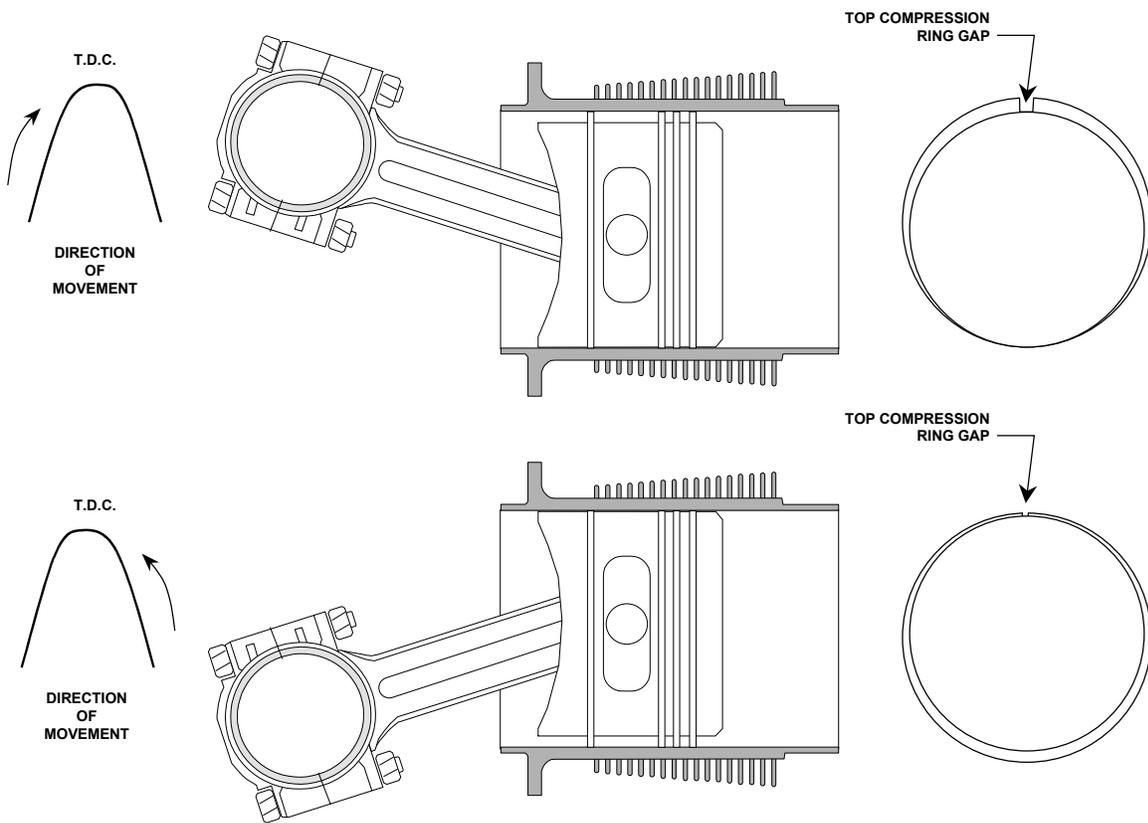

FIGURE 20-11. RING POSITIONING
10. If the leakage is below the previously determined low cylinder gauge reading, loss past the dynamic seal may be due to piston ring end gap alignment or by the piston and piston rings angular direction in the cylinder bore see Figure 20-11, "Ring Positioning." First insure that the piston and piston rings are centered. This can be accomplished by reducing regulator pressure to 20 pounds per square inch and working piston through top dead center several times bringing the piston to top dead center in the normal direction of engine rotation. Adjust regulated pressure to 80 pounds per square inch and determine amount of loss. If the gauge reading is higher than the previously determined master orifice calibrated reading, proceed to next cylinder to be tested.
NOTE. . . Piston ring rotation within the ring land is a normal design characteristic. As illustrated in Figure 20-11, "Ring Positioning," the compression ring location may have a direct bearing on the dynamic seal pressure check. Therefore, complete the test in the opposite direction if readings are below prescribed limits.